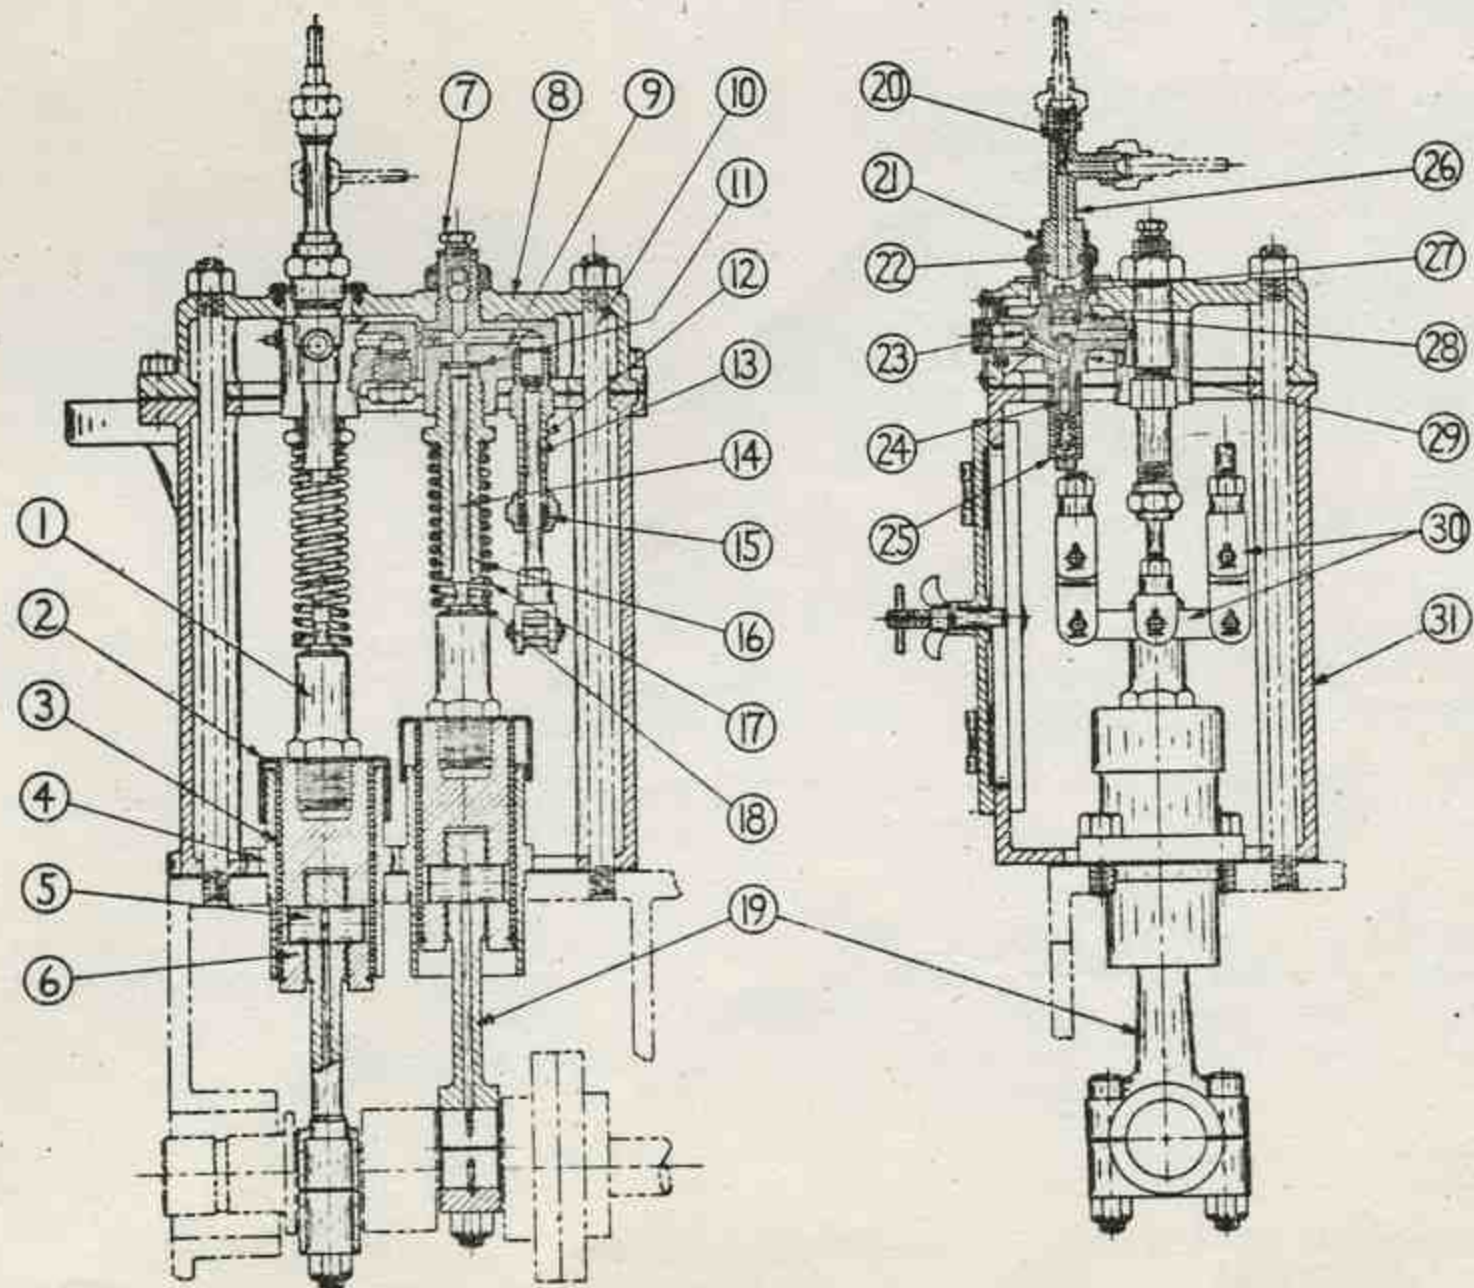

FIG. 0-1
The high pressure fuel pump is located on top of the centerframe on the operating side. The pump consists of one or two plungers actuated by cross heads and connecting rods from a crankshaft which is bolted to the end of the camshaft. One or two plungers are used depending on the engine bore and the number of cylinders. All engines with 6-1/2" bore have high pressure pumps equipped with one pump plunger which is also used on all 3-Cyl. models with bores up to and including 9 inches. 4 and 6-Cyl. models of engines with 7-1/2" or larger bores are equipped with two plunger pumps such as shown on Fig. 0-1. The construction of the high pressure pumps with one and two plungers are however similar and the following description applies to either model. Both single and two plunger high pressure pump units are equipped with one hand operated plunger which is used for priming the fuel system and for building up fuel pressure when the spray valves are being timed or tested.
Referring to Fig. 0-1 cast iron guides (4) are located in holes in the centerframe and are secured by capscrews. Cross heads (6) work in these guides and are actuated by the crankshaft and connecting rods (19). The bronze connecting rods have a clearance of .0015" to .003" on their crankpins and a side play of .005" to .009". The cross head pin bearing is formed directly in the upper end of the connecting rod and the pins have a clearance of .001" to .002" in the cross heads and in the connecting rods. Each cross head has a replaceable bronze sleeve (3), held in place by a shoulder on the lower end of the cross head and by oil guard (2) and plug (1) at the upper end. The clearance between the sleeve and the cross head guide is .002" to .004" and if it should become excessive new sleeves should be installed. Lubrication is by spray from the cranks.